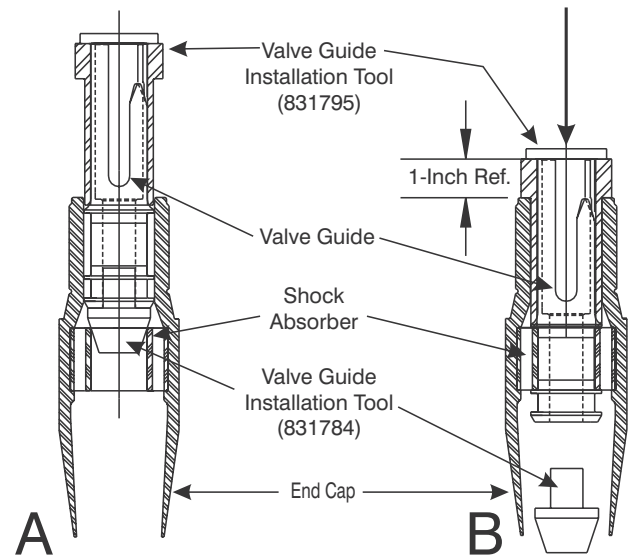

Figure 9-4. Press the Valve Guide into the Shock Absorber.
7. Before installing the Valve Guide (14), lubricate:
- the I.D. of the Shock Absorber (15).
8. Center the Valve Guide Installation Tool P/N 831784 and the Valve Guide (14) over the bore of the shock absorber as shown in Figure 9-4-A.
9. Slide the Valve Guide Installation Tool P/N 831795 over the Valve Guide (14) as shown in Figure 9-4-A. Press the Valve Guide into Shock Absorber.
10. Refer to the 1-inch reference line in Figure 9-4-B. The stop block on Installation Tool P/N 831795 assures that: